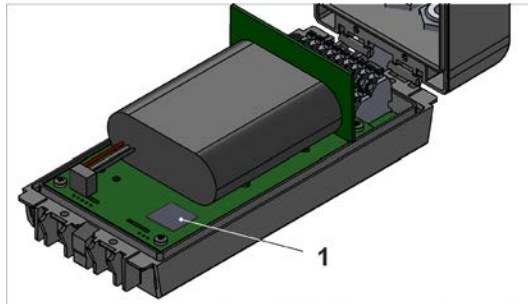

Fig. 25-2 SIM card slot
2. The SIM card slot (Fig. 25-2 Pos. 1) is accessible.